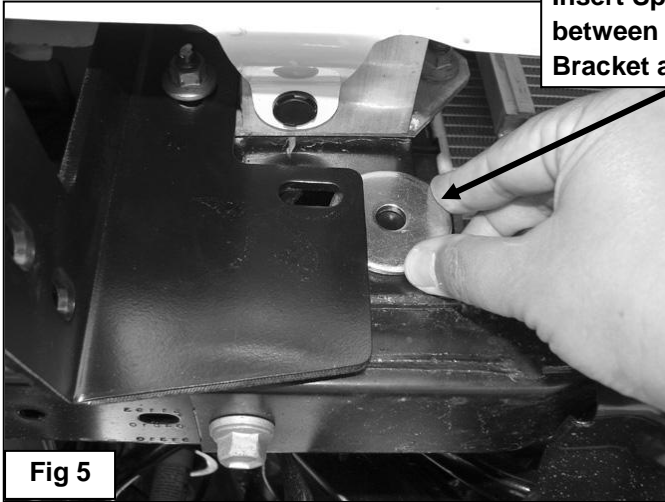

Fig 5
- Slide (1) Large Spacer Washer between the Mounting Bracket and the frame cross member, (**Figures 5 & 6**). Insert (1) 10mm x 120mm Hex Bolt with (1) 10mm x 34mm OD Large Flat Washer and (1) Large Spacer Washer into and through the hole in the back of the cross member. Make sure the Spacer Washer is against the cross member covering the large hole, (**Figures 7 & 9**). Push the long bolt through the outer Spacer Washer and Frame Bracket. Secure the Bracket to the Bolt with (1) 10mm x 34mm Large Flat Washer and (1) 10mm Nylon Lock Nut, (**Figures 8 & 9**). Leave hardware loose at this time. **NOTE:** Trim plastic splashguards attached to the bottom corners of the bumper as necessary to clear brackets.